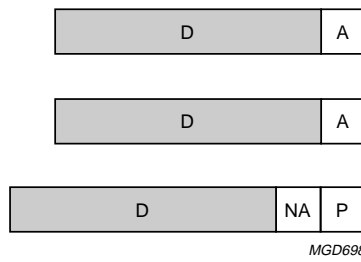

Fig.45 Transfer data and write attribute information to IICTFR.
4. Transfer data, write attribute information to IICTFR (see Fig.45):